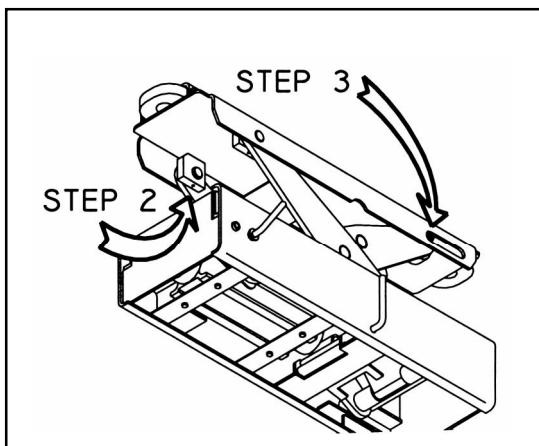

Fig. 1
- 2) Locate the two 1/4" spring pins in the pivot pin blocks. Using a 1/4" punch, drive the spring pins into the pivot pins. Remove the pivot pins and be sure to punch the spring pins out and save for reassembly (Fig. 1).
- 3) Remove the two 1/2" allen head screws (Fig. 1).